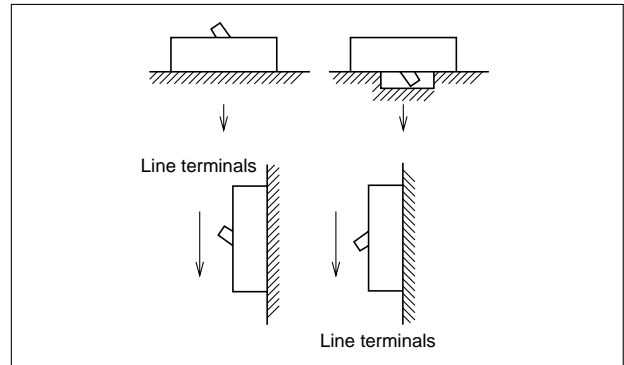

Fig. 8.2 Drop-Test Attitudes
1. MCCBs are drop-tested, as described in Fig. 8.2. The arrows show the drop direction.